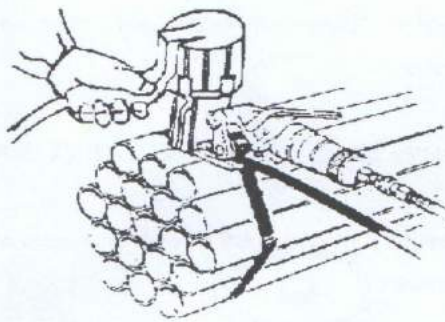

图5 (Fig5)
4.如图5所示,将锁扣机的活动钳口放在扣子上,按下主阀杆使锁紧机进行锁紧动作,作业完毕,松开主阀杆,锁扣机工作结束。
4.Place the moving jaw of sealer on the buckle, press main valve stem to lock the seal. After that, loose the main valve stem. Refer to Fig.5.